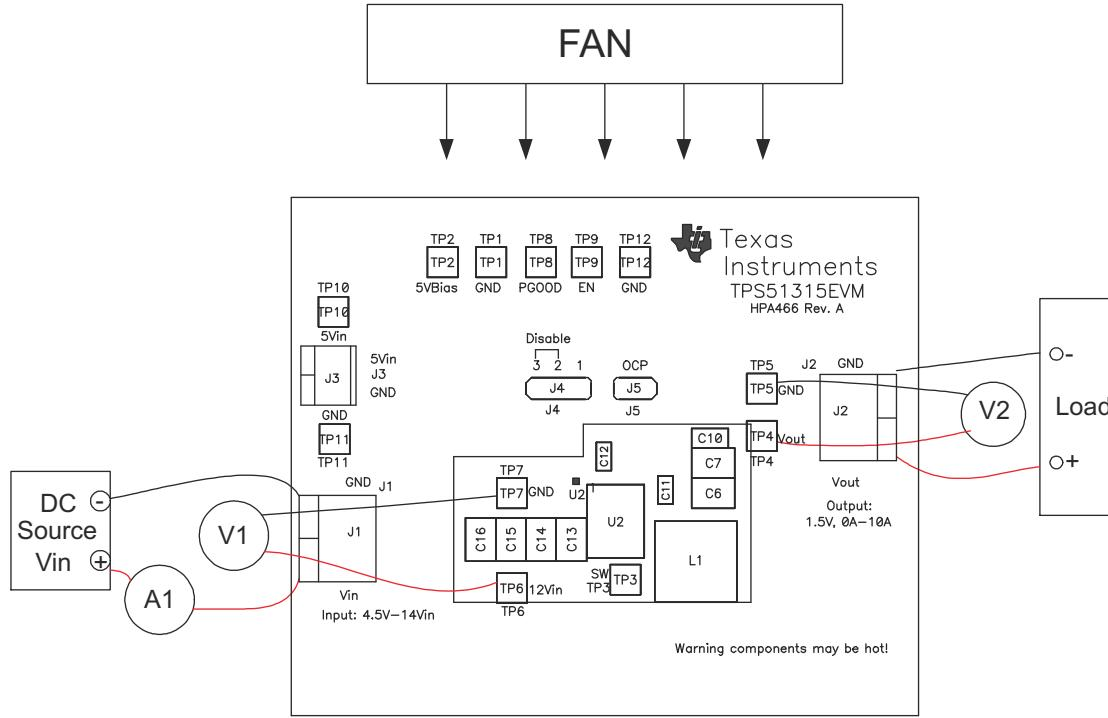

Figure 7-2. TPS51315-EVM Recommended Test Set Up
The input voltage source V_{IN} should be a variable DC source between 0 V and 14 V, capable of supplying 10 Adc. Connect V_{IN} to J1 as shown in Figure 7-2.
A voltmeter between 0 V and 15 V should be used to measure V_{IN} at TP6 (V_{IN}) and TP7 (GND). A voltmeter between 0 V and 5 V for output voltage measurement at TP4 (V_{OUT}) and TP5 (GND). A current meter between 0 A and 10 A (A1) as shown in Figure 7-2 is used for input current measurements.
Figure 7-2 is the recommended test set up to evaluate the TPS51315-EVM. Working at an ESD workstation, make sure that any wrist straps, bootstraps or mats are connected referencing the user to earth ground before power is applied to the EVM.
1. Prior to connecting the DC input source V_{IN} , it is advisable to limit the source current from V_{IN} to 10 A maximum. Make sure V_{IN} is initially set to 0 V and connected as shown in Figure 7-2.
Place a fan as shown in Figure 7-2 and turn on, making sure air is flowing across the EVM.